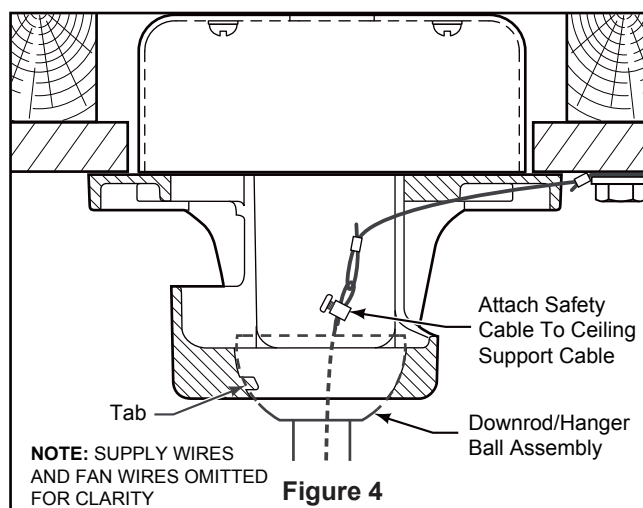

Figure 4
4. Slide downrod into the downrod support on top of the motor. Install the clevis pin by aligning the holes in the downrod support with holes in the downrod. Secure clevis pin with hairpin clip. Install and tighten the two previously removed set screws with nuts in the downrod support. (Figure 4)
4. Carefully lift the fan and seat the downrod/hanger ball assembly onto the hanger bracket that was just attached to the outlet box. Be sure the groove in the ball is lined up with tab on the hanger bracket. (Figure 4)
5. Attach the safety cable to ceiling support cable. Slide cable clamp and washer onto safety cable (from fan). Place the end of cable through the loop of ceiling support cable. Pull as much cable through loop as possible. Feed end of cable into clamp hole and firmly tighten screw. (Figure 4)
3. Connect green wires from hanger bracket, hanger ball and ground from supply using wire connector. Connect black wire from receiver unit marked "AC IN L" to black supply wire using wire connector. Connect white wire from receiver unit marked "AC IN N" to white supply wire using wire connector. Connect white wire from receiver unit marked "TO MOTOR N" to white wire from fan using wire connector supplied with receiver unit. Connect black wire from receiver unit marked "TO MOTOR L" to black wire from fan using wire connector supplied with receiver unit. Lastly, connect blue wire from receiver unit to the blue fan light wire using wire connector supplied with receiver unit. (Figure 4)